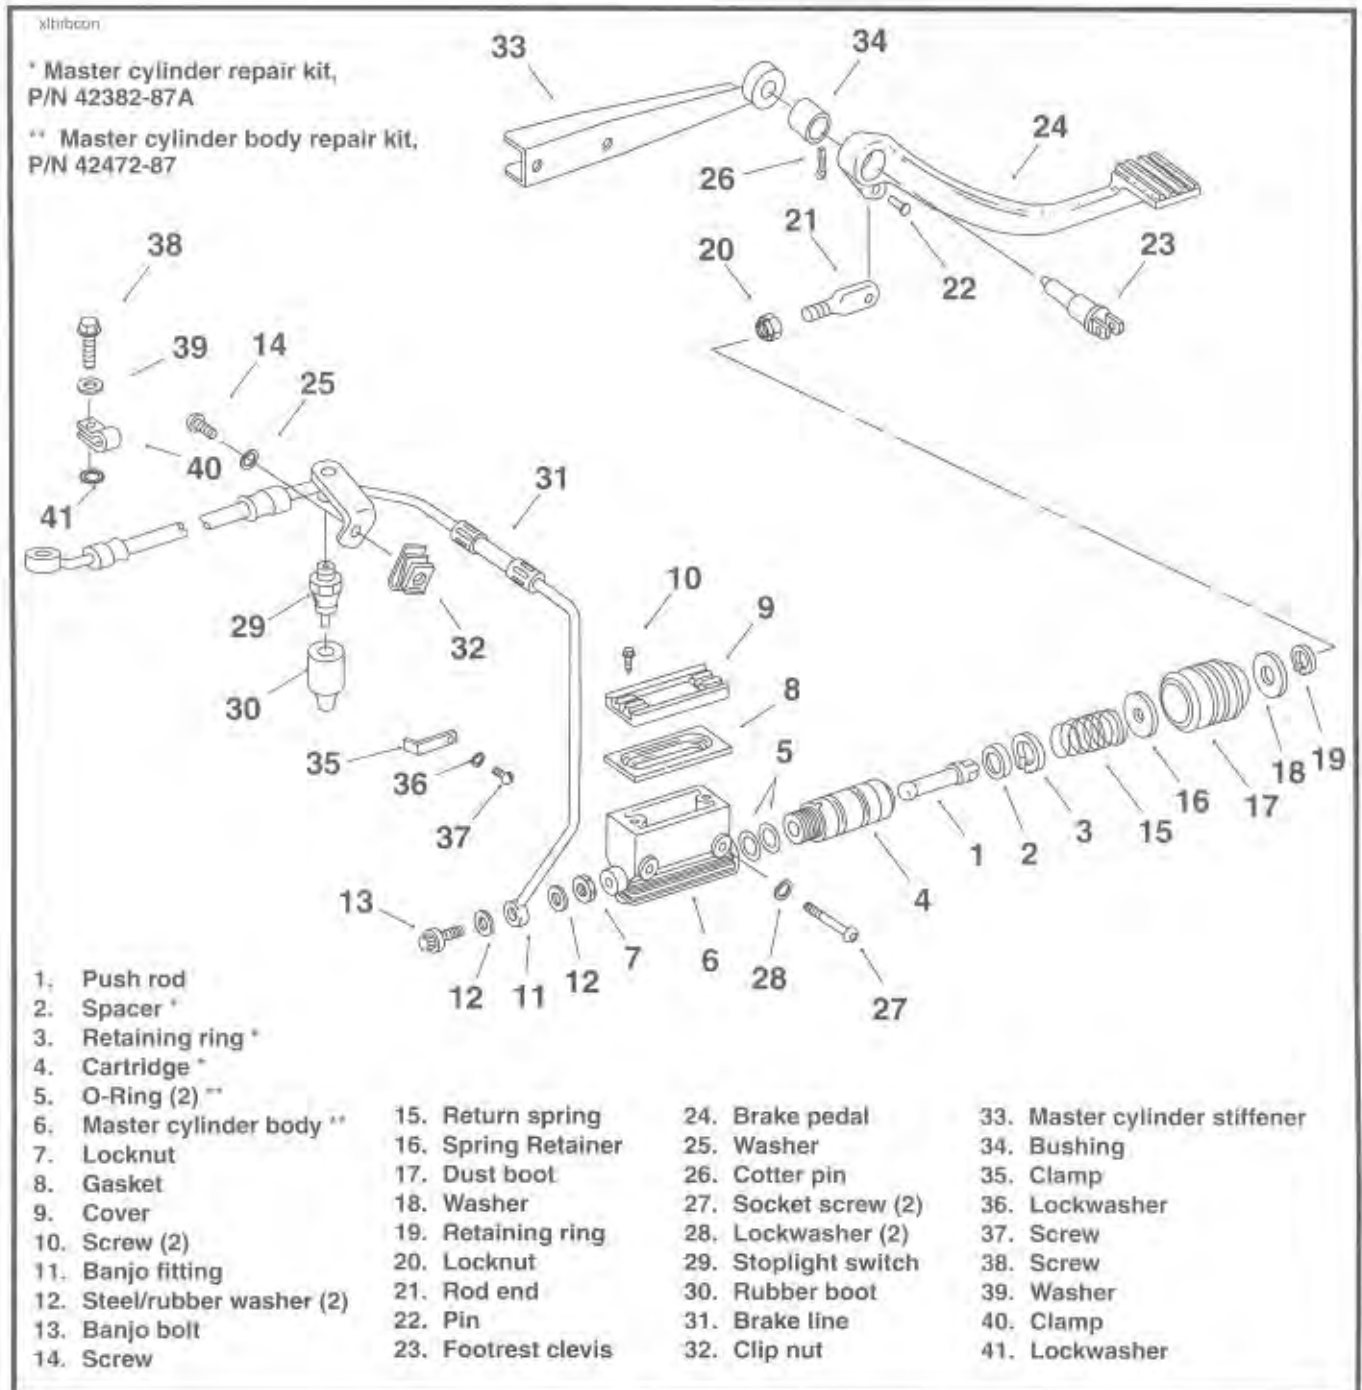
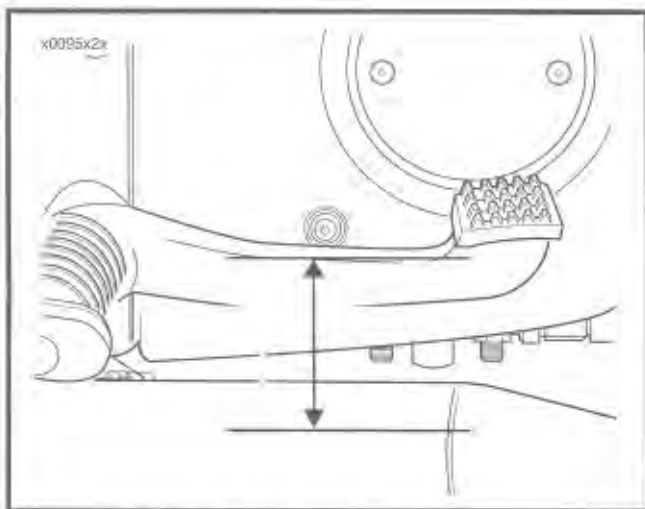

Figure 2-47. Rear Brake Master Cylinder and Linkage
Figure 2-48. Rear Brake Pedal Adjustment
See Figure 2-47. Loosen locknut (20). With motorcycle on level surface, adjust push rod (1) so that brake pedal is parallel with floor (see Figure 2-48). Tighten locknut.
(Figure 2-47)
CLEANING, INSPECTION AND REPAIR (Figure 2-47)
1. See Figure 2-47. Insert original push rod (1) into bore at unthreaded end of cartridge (4). Install spacer (2) over end of push rod. Install retaining ring (3) in groove next to spacer inside cartridge bore. Slide two **new** O-rings (5) into external grooves on cartridge (4). Insert cartridge into master cylinder body (6). Align slot at top of cartridge with key in master cylinder body. Push cartridge through master cylinder body until cartridge bottoms in bore. Install locknut (7). Tighten locknut to 30-40 ft-lbs (41-54 Nm) torque.
2. Place protective shields over vise jaws and lightly clamp master cylinder body in vise with push rod (1) upright.
3. Place return spring (15) over push rod (1). Place spring retainer (16) on top of spring. Slip large I.D. end of dust boot (17) over retainer and spring. Seat the small I.D. end of boot against spring retainer (16). Be sure vent/drain hole in boot is at the bottom.
4. Place washer (18) on top of boot. Push down on washer to compress spring (15). With spring compressed, install **new** retaining ring (19) in groove of push rod (1).
5. Position master cylinder next to sprocket cover. Position **new** steel/rubber washers (12) on each side of banjo fitting (11). Insert bolt (13) through washers and banjo fitting. Thread bolt into cartridge and tighten to 17-22 ft-lbs (23-30 Nm) torque.
6. Position large I.D. end of dust boot (17) into groove in master cylinder body (6).
7. Install clamp (35), screw (37) and lockwasher (36) to secure rear brake line (31) to sprocket cover. Tighten clamp screw to 45-65 **in-lbs** (5-7 Nm) torque.
9. Turn push rod (1) at flats to thread on rod end (21).
10. Position master cylinder body (6) over mounting holes in sprocket cover. Secure with screws (27) and lockwashers (28). Tighten screws to 155-190 **in-lbs** (17.5-21.5 Nm) torque.
12. Adjust push rod until brake pedal is parallel with floor, as shown in Figure 2-48. Tighten locknut (20).